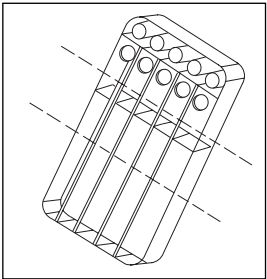

Figure 9.16
- Use the wash volume verification tray (**Figure 9.16**).